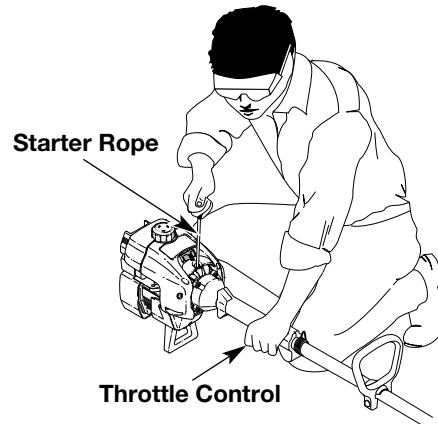

Fig. 16
WARNING: Avoid accidental starting. Be in the starting position when pulling the starter rope (Fig. 16). The operator and unit must be in a stable position while starting to avoid serious personal injury.
5. With the unit on the ground, squeeze the throttle control and hold. Pull starter rope briskly (Fig. 16). Continue pulling until the engine sounds as though it wants to run (normally 2 to 5 pulls).
7. Pull starter rope briskly 1 to 3 times to start the engine (Fig. 16).
1. Release your hand from the throttle control (Fig. 16). Allow the engine to cool down by idling.